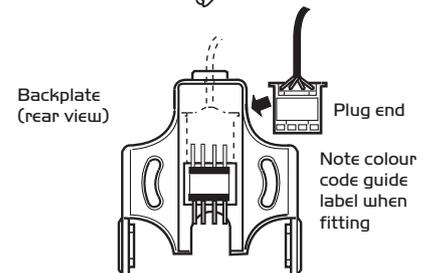

Figure 3.
e) Before fixing the backplate to the wall, connect the wall fixed cable end plug to the UPPER set of pins on the bracket (fig 3) **Note: check the colour code matching** when fitting the plug onto the pins.